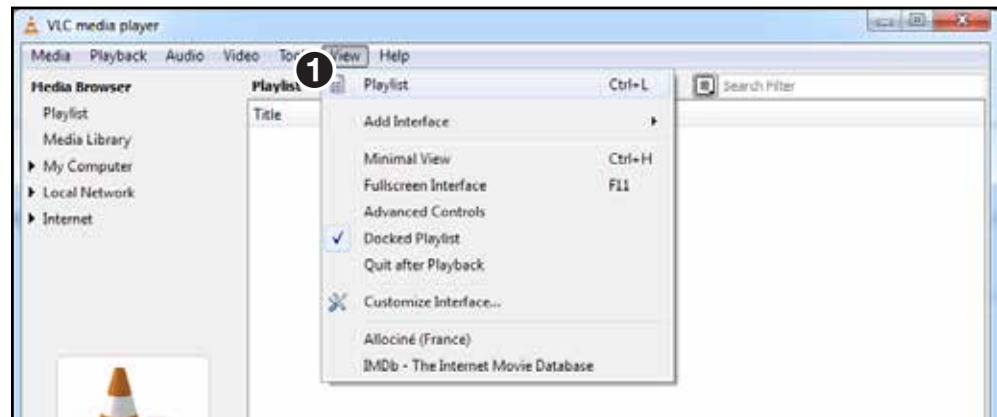

Figure 103. VLC Playlist
1. Open VLC. From the **View** menu, select **Playlist** (see figure 103).